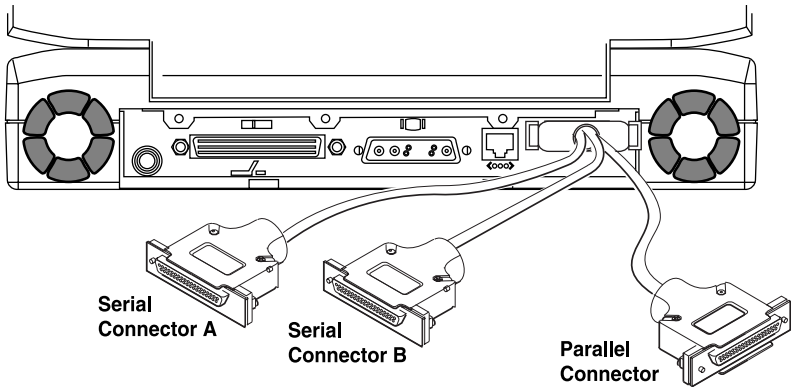

Figure 3-10 Serial and Parallel Connections
The UltraBook back panel has a 50-pin connector housing two serial ports and a parallel port (see Figure 3-10).
3. The other end of the I/O break-out cable has two 25-pin connectors for attaching serial devices and a parallel connector for attaching parallel devices (see Figure 3-10). Make the appropriate serial and parallel connections.